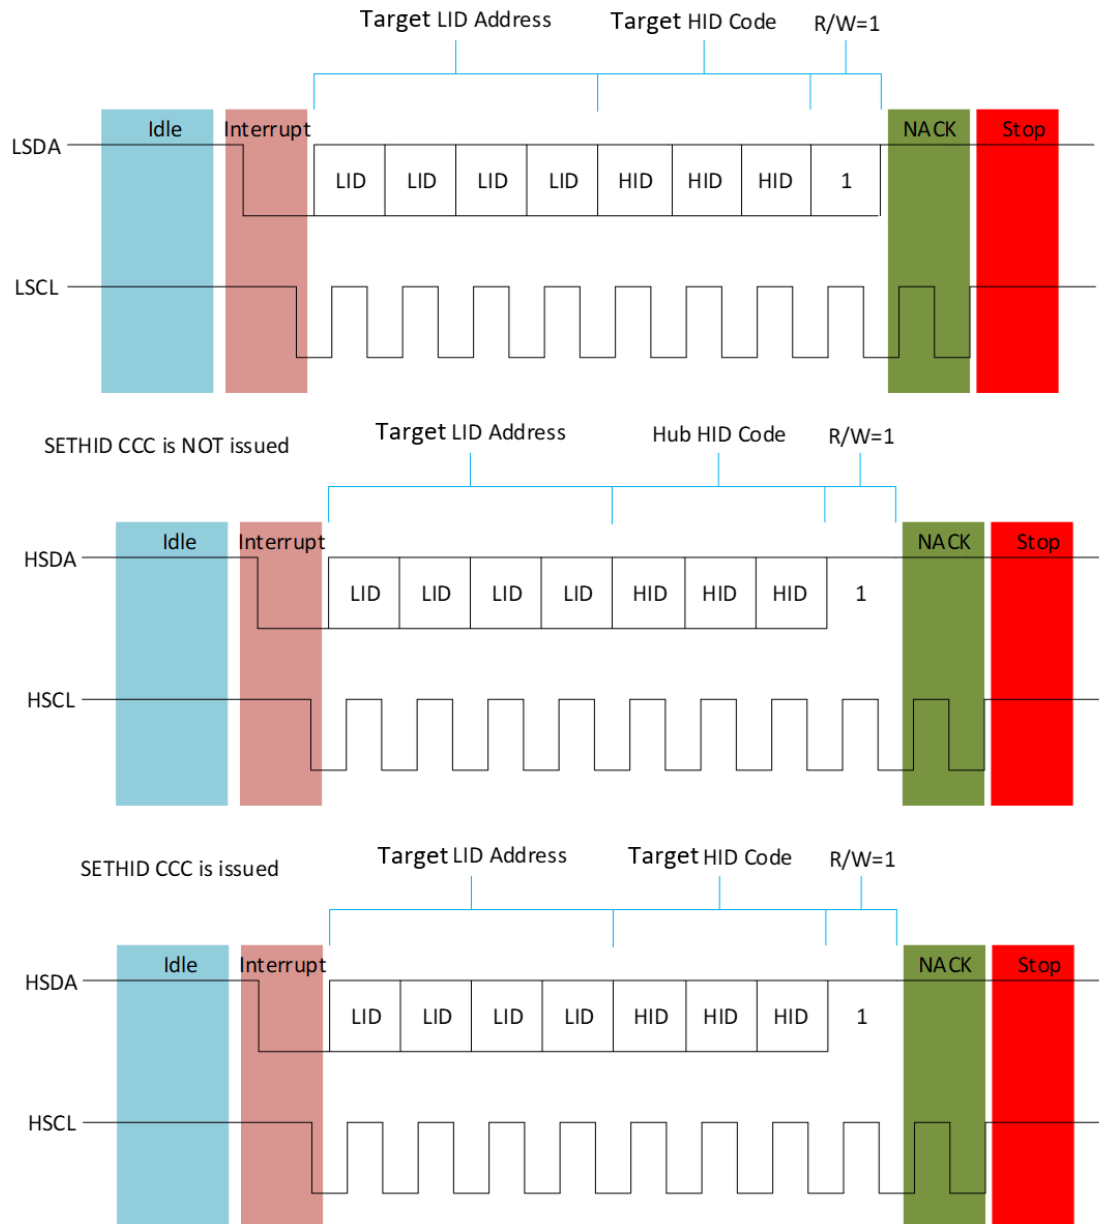

Figure 15 — Local Device Interrupt; Host NACK Followed by STOP
- The Host sends NACK on the 9th bit as shown in Figure 15 followed by a STOP command. In this case, the local device does not transmit the IBI payload and waits for the next opportunity to request an interrupt. At this point, though Host sent an NACK, it does have a knowledge of which local device sent the IBI request. The local device retains the IBI status flag and Pending Interrupt Bits [3:0] = '0001'